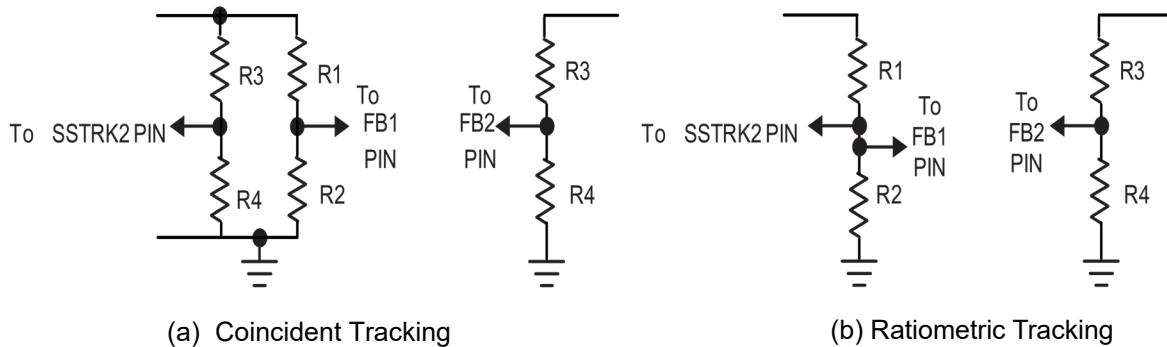

Figure 17. Setup for Coincident and Ratiometric Tracking
To implement the coincident tracking in Figure 16a, connect an additional resistive divider to V_{OUT1} and connect its midpoint to the SSTRK pin of the slave channel. The ratio of this divider should be the same as that of the slave channel's feedback divider shown in a. In this tracking mode, V_{OUT1} must be set higher than V_{OUT2} . To implement the ratiometric tracking, the feedback pin of the master channel should connect to the SSTRK pin of the slave channel (as in Figure 17b). By selecting different resistors, the VE2266/VE2266A can achieve different modes of tracking including the two in Figure 17.
- 3) The resistive divider, (e.g. R1 to R4 in Figure 17.) must be connected between the (+) plate of C_{OUT} and a ground line terminated near GND. The feedback signal FB should be routed away from noisy components and traces, such as the SW line, and its trace length should be minimized. Keep R1 and R2 close to the IC.